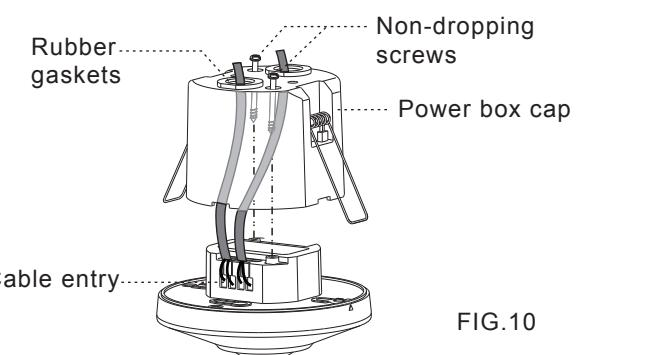

FIG.10
- 3.4.2.2 Use a screwdriver to break the rubber gasket on Power box cap, then feed cables through it (See FIG.10).